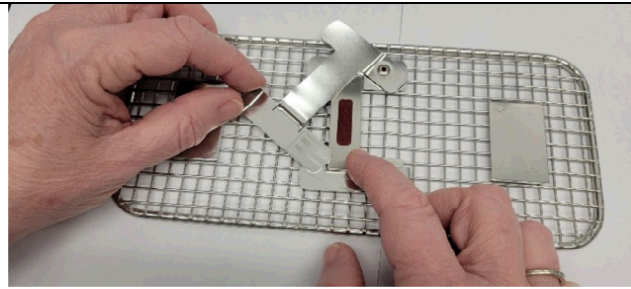

Figure 3
5. Close the TOSI[®] holder and ensure the TOSI[®]-plate doesn't move by holding down the plate with your finger as seen in **(Fig. 3)**. (NOTE: It is safe to touch the plate and simulated blood soil.)